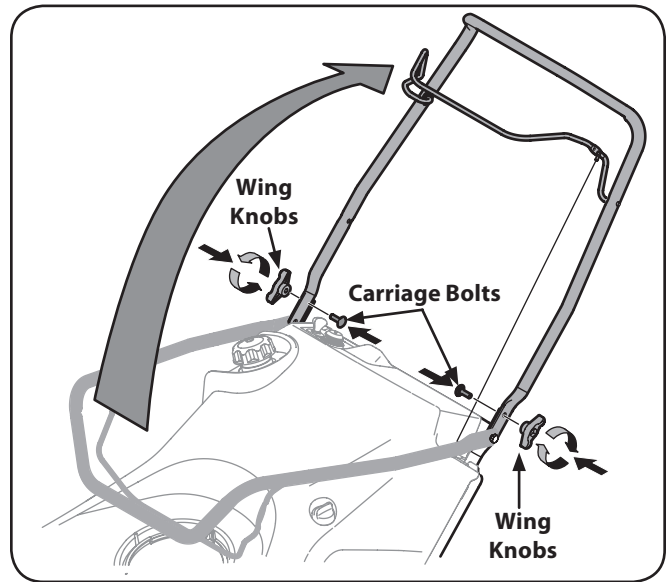

Figure 3-2
2. Pivot the upper handle into the operating position. Be sure not to pinch any of the cables in the process. See Fig. 3-2.
3. Tighten the previously removed hardware to secure the handle in place. See Fig. 3-2.